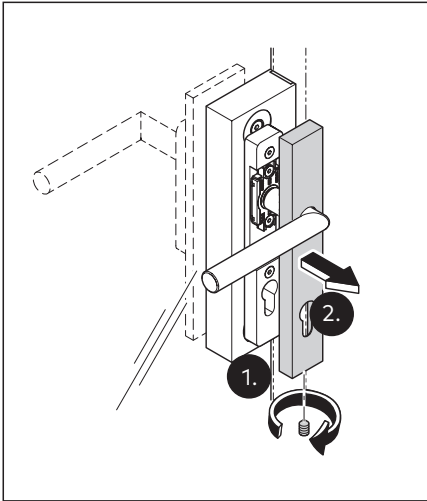

Fig. 38 Detach the cover from the base plate
1. Loosen the grub screw on the cover (Fig. 38).